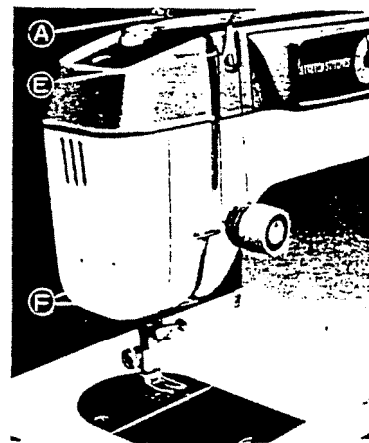

Fig. 11-A
- (2) Place spool of thread on spool pin.
- (3) Lead thread through rear and front arm thread guides "A"
- (4) Down and between tension discs "B" from right to left and up and over hook "D" (Fig. 11-B)
- (5) Lead thread up and through take-up eye from right to left.
- (6) Down and between thread guide "F".(Fig. 11-A)